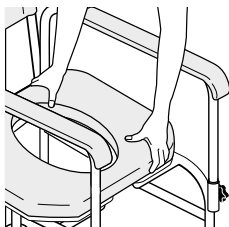

Fig 1
- Release the clips by grasping the front of the seat whilst holding down the armrests, as Fig 1.